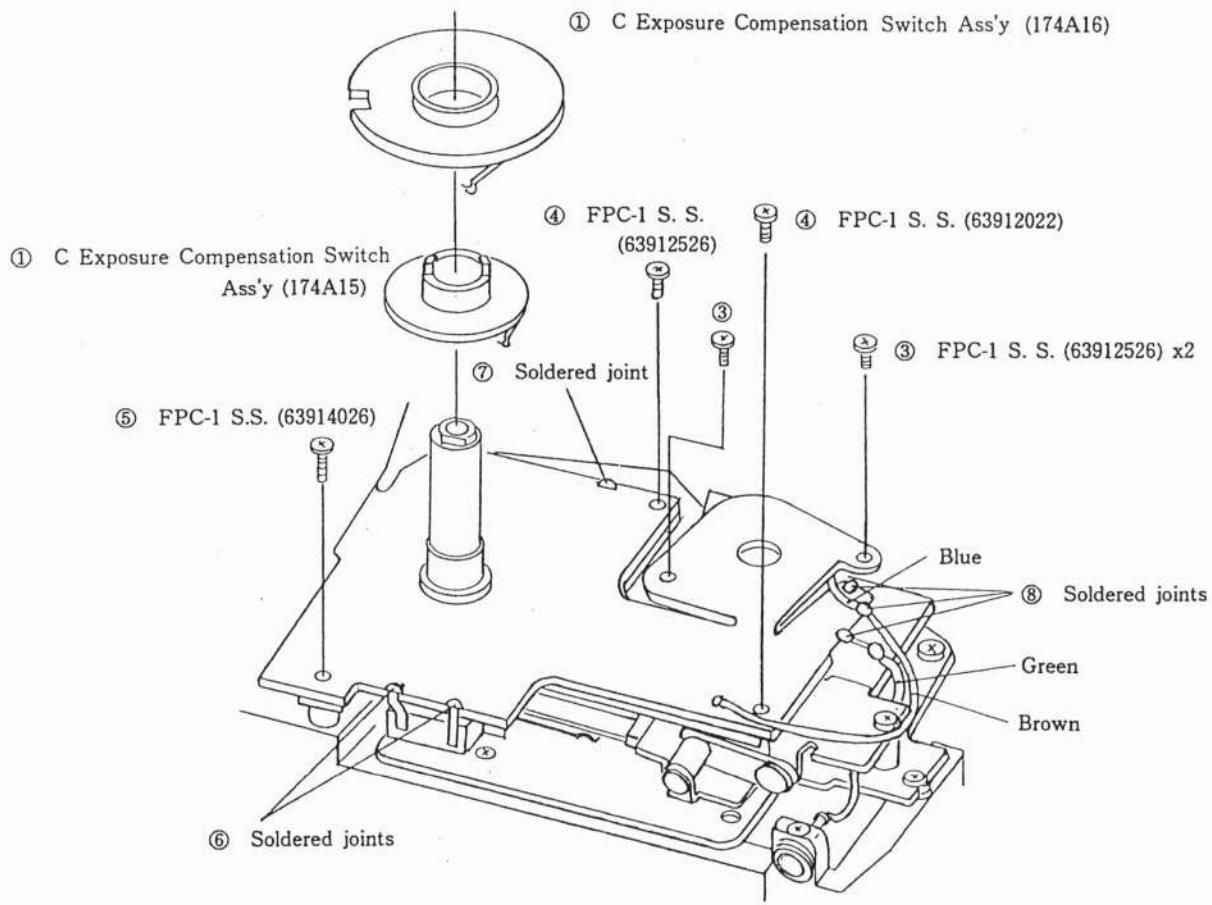

Fig. 6
- 1) Remove the respective parts ①~⑤ shown in (Fig. 6) in numerical order.